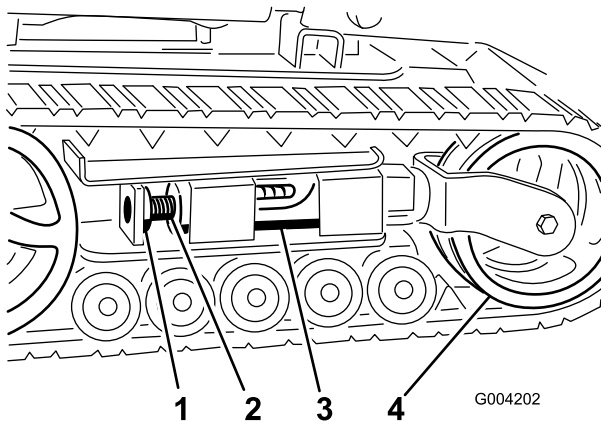
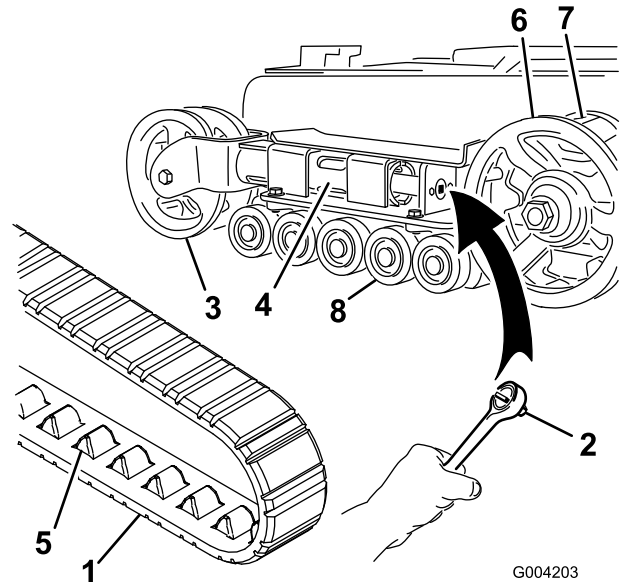
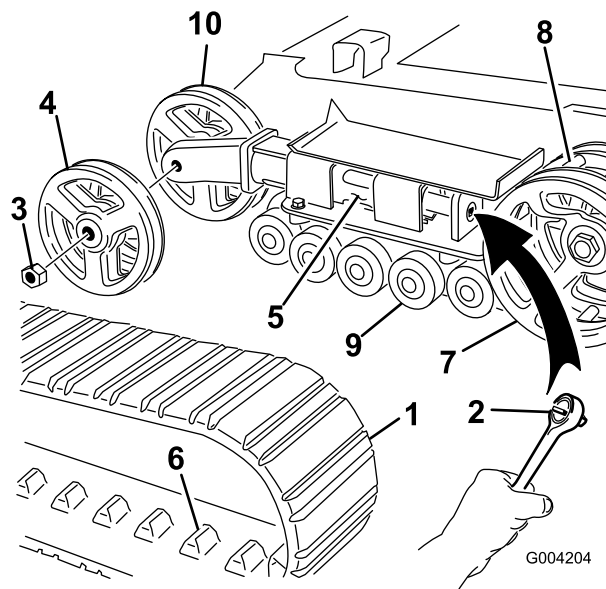

Figure 38
Figure 39
Figure 40
3. Remove the locking bolt and nut (Figure 38).
4. Using a 1/2 inch drive socket (Figure 39), turn the tensioning screw counter-clockwise until the distance between the tension nut and the
5. Align the closest notch in the tension screw to the locking bolt hole and secure the screw with the locking bolt and nut (Figure 38).
4. Using a 1/2 inch drive socket, release the drive tension by turning the tensioning screw clockwise (Figure 38 and Figure 39).
5. Push the tension wheel toward the rear of the unit to move the fork tube against the frame (Figure 39). (If it does not touch the frame, continue turning the tensioning screw until it does.)
7. When the track is off of the tension wheel, remove it from the drive sprocket and road wheels (Figure 39).
8. Beginning at the drive sprocket, coil the new track around the sprocket, ensuring that the lugs on the track fit between the spacers on the sprocket (Figure 39).
9. Push the track under and between the road wheels (Figure 39).
4. Using a 1/2 inch drive socket, release the drive tension by turning the tensioning screw clockwise (Figure 38 and Figure 40).
5. Push the tension wheel toward the rear of the unit to move the tension tube against the frame (Figure 40). (If it does not touch the frame, continue turning the tensioning screw until it does.)
6. Remove the nut securing the outer tension wheel and remove the wheel (Figure 40).
7. Remove the track (Figure 40).
8. Remove the nut securing the inner tension wheel and remove the wheel (Figure 40).
12. Install the inner tension wheel and secure it with the nut removed previously (Figure 40).
14. Install the new track, ensuring that the lugs in the track fit between the spacers in the middle of the drive sprocket (Figure 40).
15. Install the outer tension wheel and secure it with the nut removed previously (Figure 40).